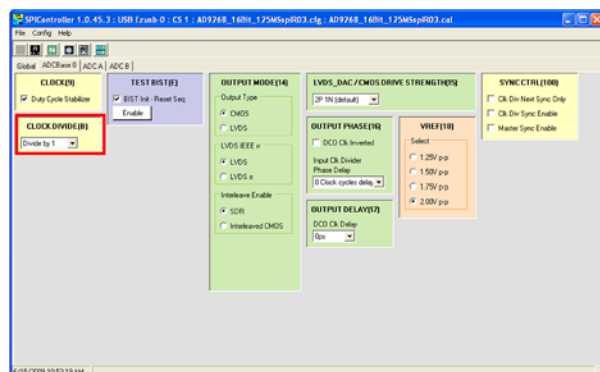
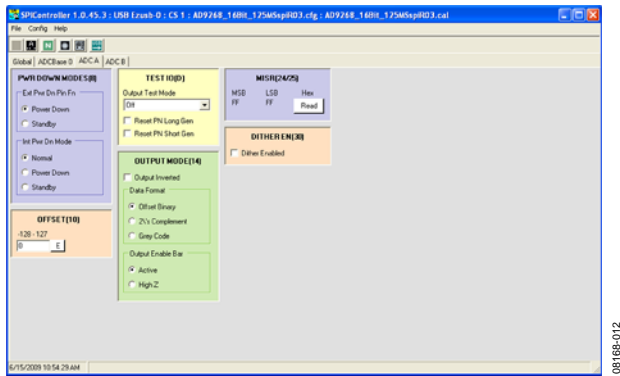

Figure 12. SPI Controller, CLOCK DIVIDE(B) Box
Figure 13. SPI Controller, Example ADC A Page
3. In the **ADCBASE 0** tab of the **SPIController** window, find the **CLOCK DIVIDE(B)** box (see Figure 12). If using the clock divider, use the drop-down box to select the correct clock divide ratio, if necessary. See the appropriate part data sheet; the AN-878 Application Note, *High Speed ADC SPI Control Software*; and the AN-877 Application Note, *Interfacing to High Speed ADCs via SPI*, for additional information.
4. Note that other settings can be changed on the **ADCBASE 0** page (see Figure 12) and the **ADC A** and **ADC B** pages (see Figure 13) to set up the part in the desired mode. The **ADCBASE 0** page settings affect the entire part, whereas the settings on the **ADC A** and **ADC B** pages affect the selected channel only. See the appropriate part data sheet; the AN-878 Application Note, *High Speed ADC SPI Control Software*; and the AN-877 Application Note, *Interfacing to High Speed ADCs via SPI*, for additional information on the available settings.